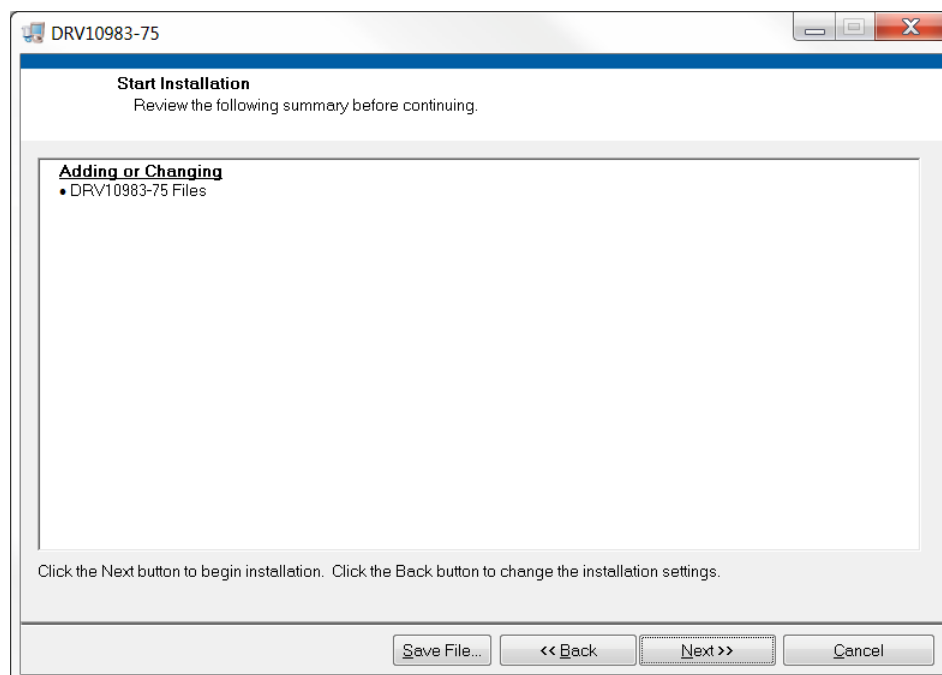

Figure 14. GUI Start Installation
- The screen shown in Figure 14 appears. Click *Next* >> to begin installation.